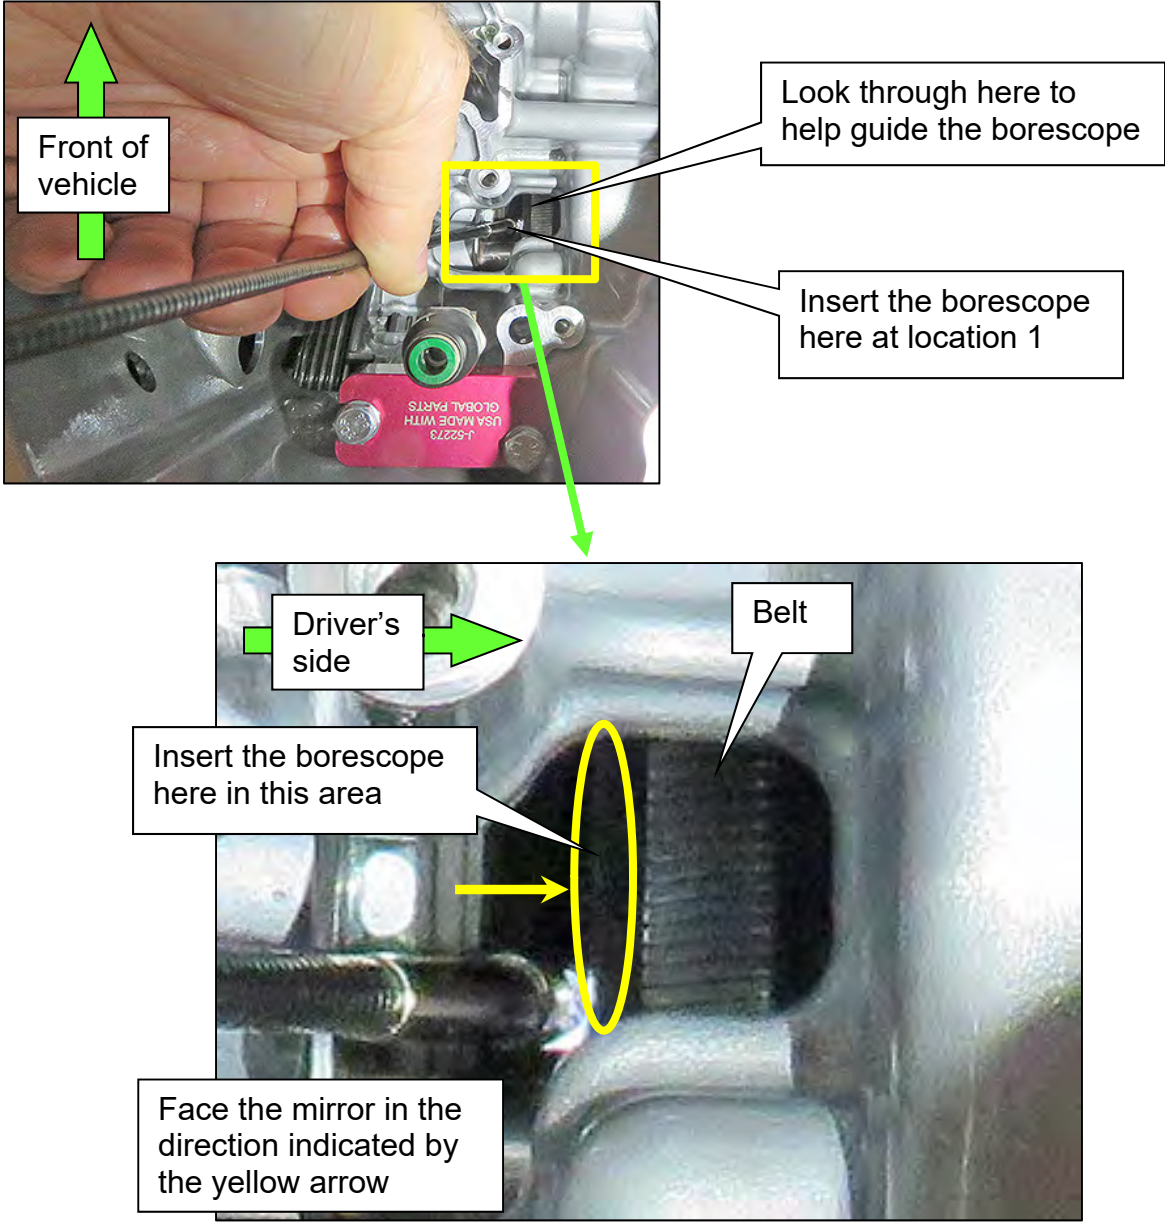

Figure 11
- 19. Insert the borescope where shown in Figure 11 as follows: